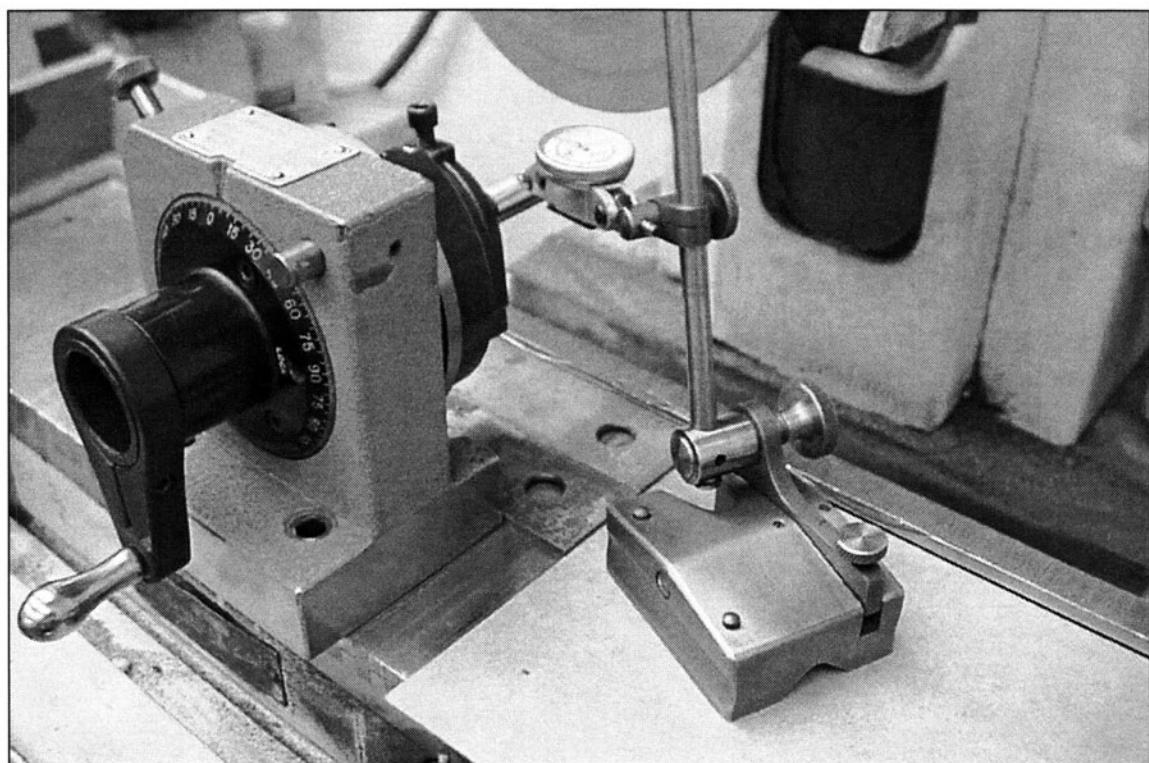

FIGURE 14-11 A thin piece of cardboard, plastic or phenolic can be placed over the magnet to allow a surface gauge to be slid into place.
18. Place a thin piece of phenolic on a magnetic chuck to aid sliding a surface gauge on and off the magnet. (See Fig. 14-11)